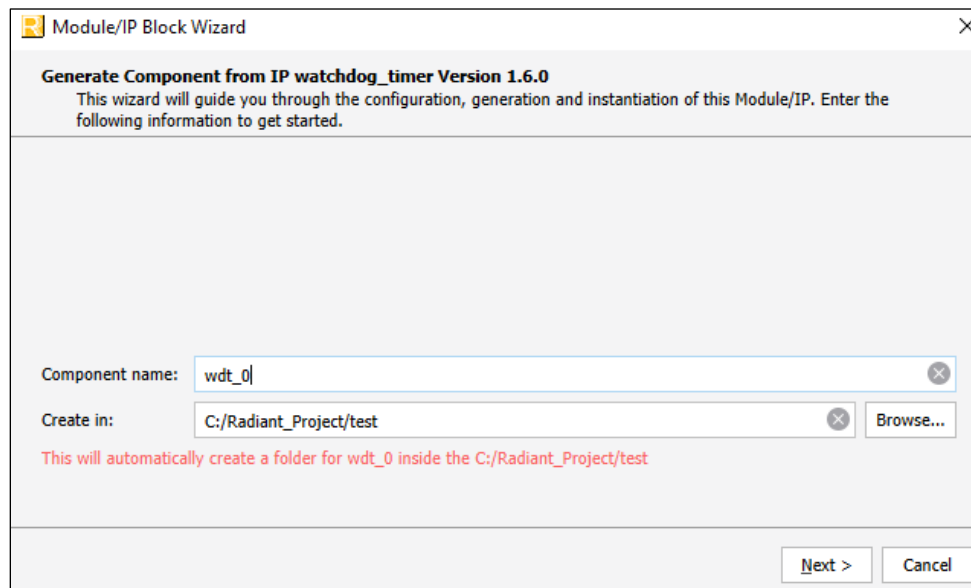

Figure 7.1. Module/IP Block Wizard
2. In the **IP Catalog** tab, double-click on **Watchdog Timer** under **IP, Processors, Controllers, and Peripherals** category. The **Module/IP Block Wizard** opens, as shown in Figure 7.1. Enter values in the **Component name** and the **Create in** fields and click **Next**.
5. Click **Finish**. All the generated files are placed under the directory paths in the **Create in** and the **Component name** fields, as shown in Figure 7.1.